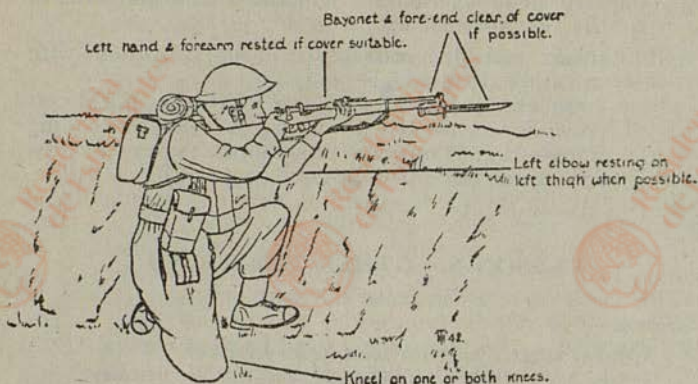

Fig. 11
- ii. *Kneeling and sitting.*—"Positions of observation" "Behind cover" and "Watch the front" will be carried out in exactly the same way as in Lesson 7, except the positions must be modified to suit the cover. The main point is to avoid over exposure. On the "Range" being ordered, or, if acting individually, set the sights to the estimated range and adopt the "Position of readiness". Kneel on the right knee, keeping it out to the right, and with the body supported on the right heel, the left elbow resting on the left thigh, if possible. It may be more comfortable to kneel on both knees or even adopt a sitting position, depending on the nature of the cover (see Fig. 11).